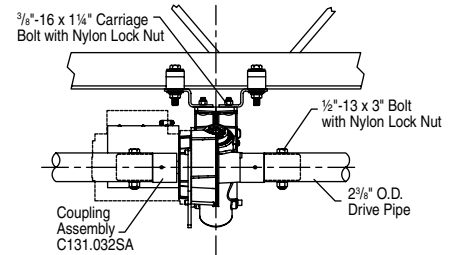

Figure 4
- ⑧ Attach drive tube to winch output shafts using supplied couplers, key stock and set screws (see fig 4).